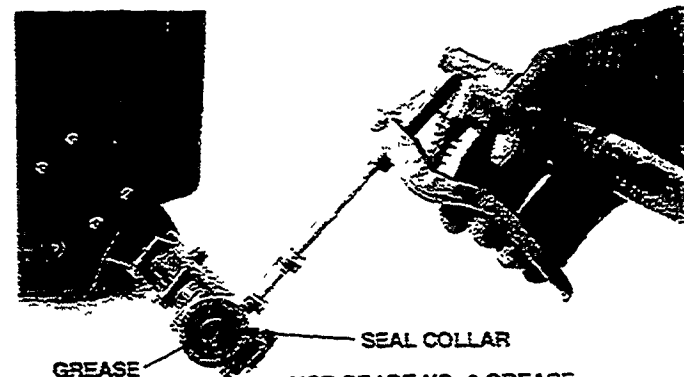

Figure 23
- Each 10 hours of use the gearcase must be regreased by first removing cutting head (or blade), blade holders and seal collar (Figure 23).